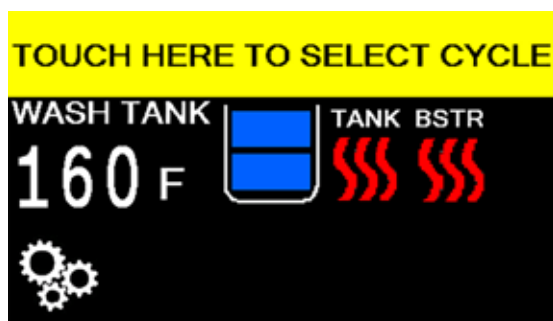

Fig. 98 - Main screen - normal operation
21. "DELIME COMPLETE" appears. Press the "CONTINUE" button and the main screen will appear. The machine will fill and return to normal operation, (Fig. 98).